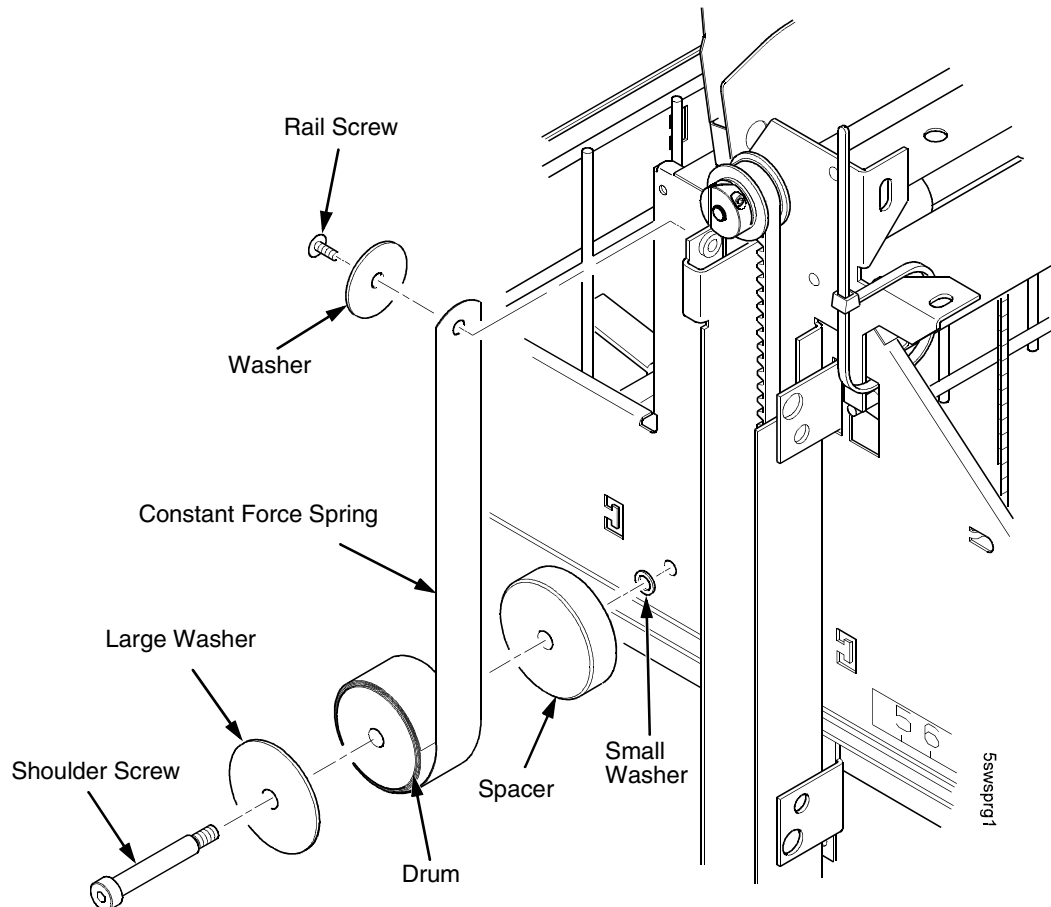

Figure 93. Removing and Installing the Constant Force Spring
3. Remove the shoulder screw, large washer, spacer, and small washer from the constant force spring and drum. Let the spring coil itself up until it reaches the top of its travel on the vertical rail. (Figure 93.)
4. Firmly gripping the spring and drum, remove the rail screw and washer securing the spring to the vertical rail. (Figure 93.)
5. Position a new constant force spring on the vertical rail and install the rail screw and washer. (Figure 93.)
6. Install the shoulder screw, large washer, spacer, and small washer as shown in Figure 93.